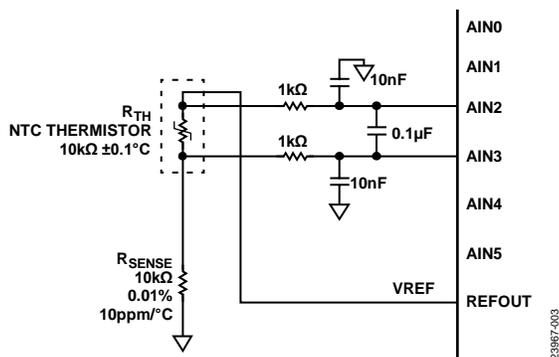

Figure 3. 10 kΩ NTC Thermistor Analog Input Configuration
Figure 3 shows the configuration of the NTC thermistor interfacing with the AD7124-4/AD7124-8. The two leads of the NTC thermistor are connected to the AIN2 and AIN3 pins, respectively. REFOUT is also connected to AIN2 and the NTC thermistor to provide a constant excitation voltage to the thermistor. R_{SENSE} is connected in series with the NTC thermistor and referenced to ground to have a potential divider circuit. Then, this measured voltage, that is, the voltage across the thermistor, is used to calculate the current passing through R_{SENSE} , which is the same current that passes through R_{TH} . Therefore, the R_{TH} value can also be determined.
For the thermistor circuit shown in Figure 3, data was gathered for different digital filter and power mode configurations of the AD7124-4/AD7124-8, namely the sinc⁴ filter operating in full power mode and the post filter operating in low power mode as discussed in Digital and Analog Filtering section.
- Connect the thermistor and precision reference resistor as shown in demonstration mode (see Figure 3).